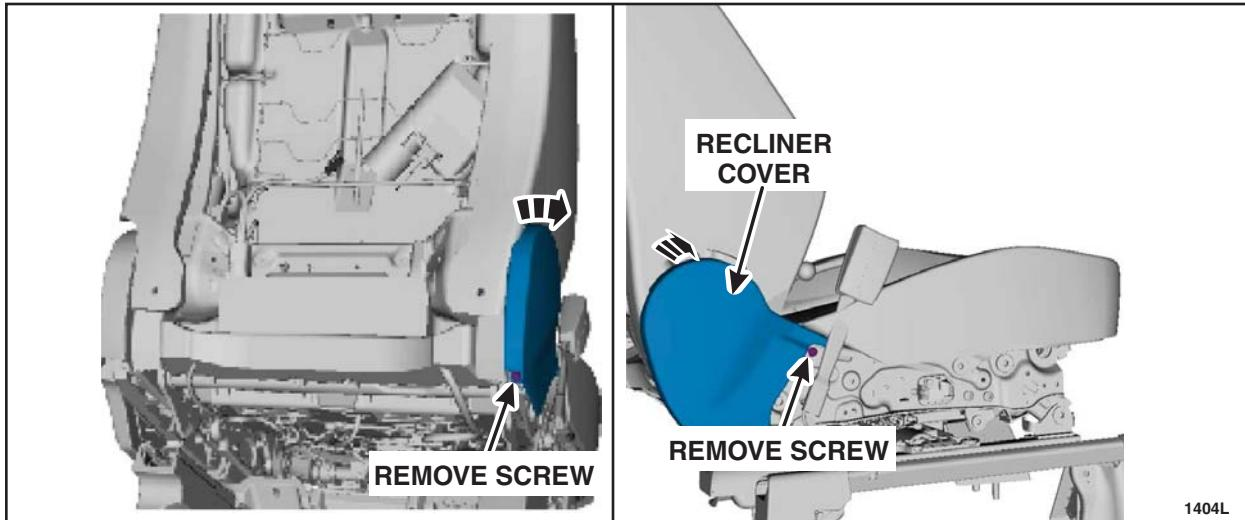

FIGURE 16
19. Remove the recliner cover. See Figure 16.
3. Install the recliner cover. See Figure 16.